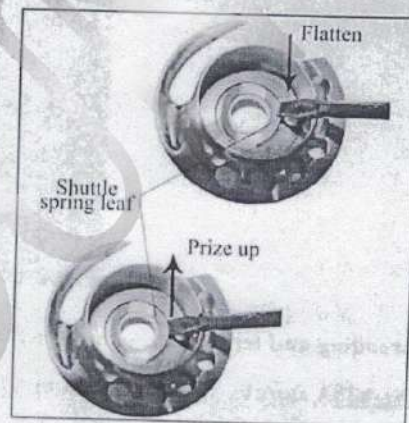

Fig.5b
- (2) The tension of bobbin thread is adjusted through the shuttle spring leaf. Prize up the spring leaf with screwdriver and the bobbin thread will be tightened. (Fig.5b)
- (3) If it is too tight, flatten the hem of the shuttle spring leaf with screwdriver. (Fig.5b)
- (4) make sure that the spring leaf is not so flat that it can't get in touch with the shuttle. As a result, the bobbin thread can't be adjusted.